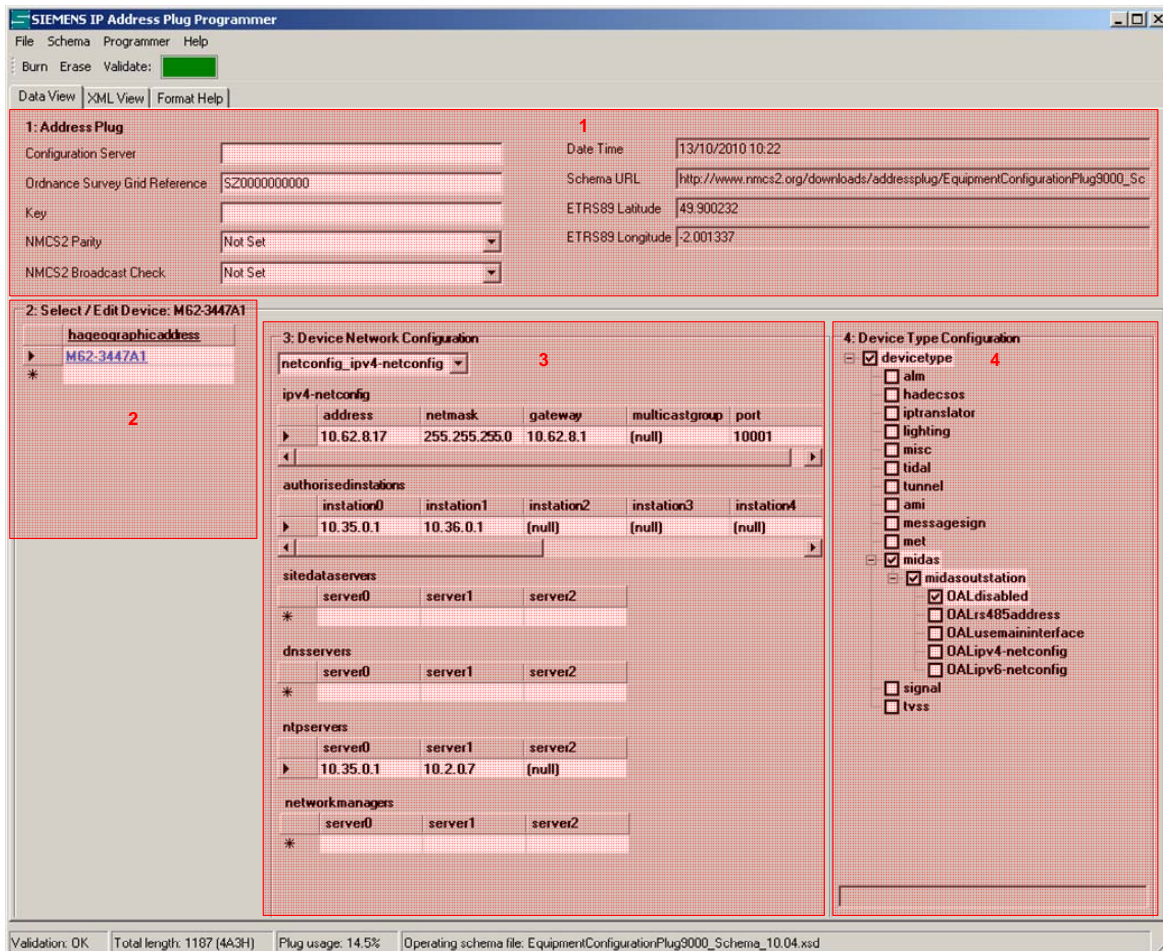

Figure 9 – Data View
Editing of a configuration is done through the “data view”, which can be seen in Figure 9. This tab provides the facilities to view and edit the current working configuration before validation.
1. General configuration (Figure 9 highlighted section 1)
2. A list of devices (Figure 9 highlighted section 2), each containing a:
3. Device network configuration (Figure 9 highlighted section 3)
4. Device type configuration (Figure 9 highlighted section 4)